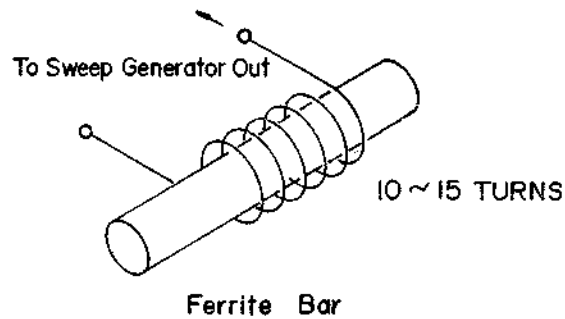

Fig. 3-9
- (2) Radiating Antenna—See Fig. 3-9.
- (3) Oscilloscope